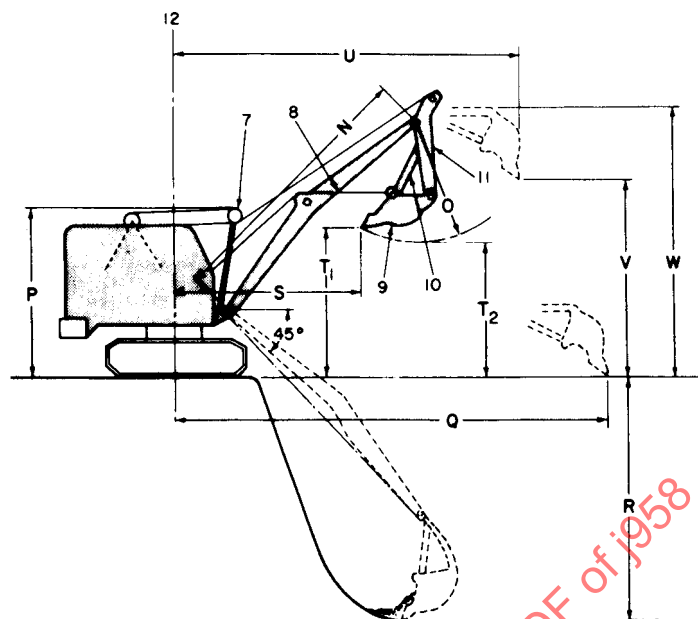

FIGURE 5—HOE ATTACHMENT
6. **Hoe Attachment**—See Figure 5.